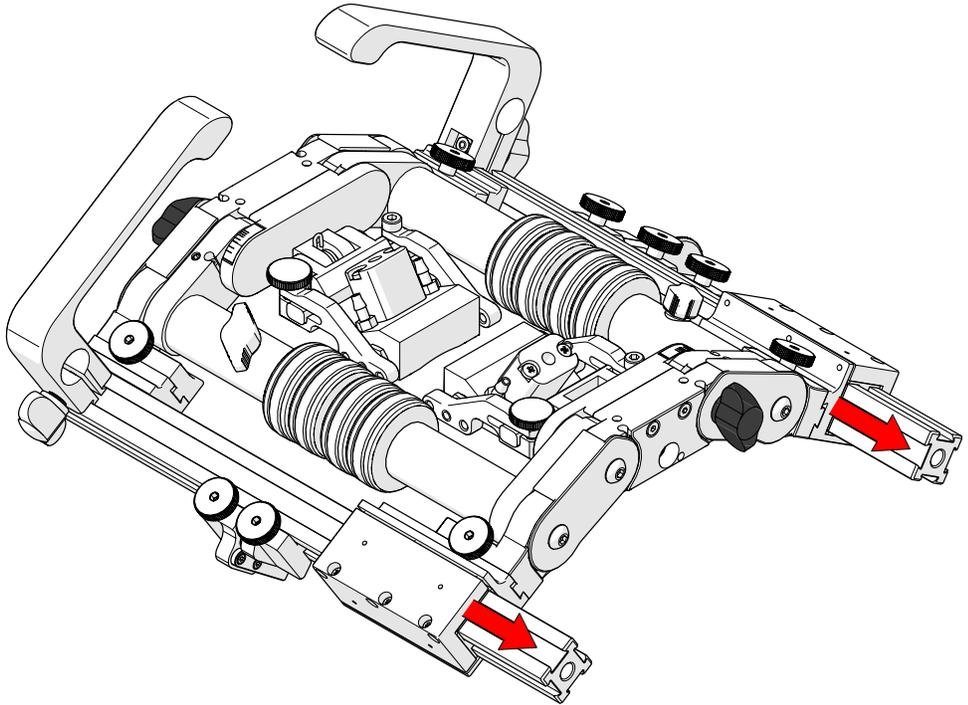

Fig. 48 - Adjust probe centre spacing
5. Tighten the black wing knobs (Fig. 48).
7. Place the scanner upon the flange surface to be inspected (Fig. 48).